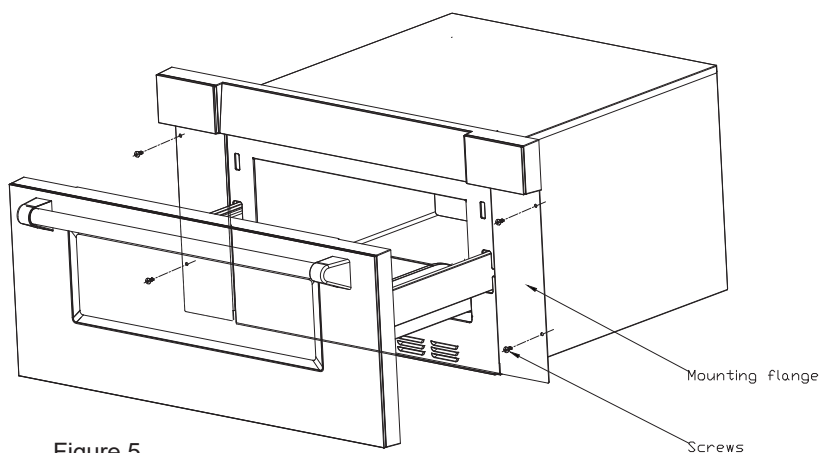

Figure 5
See Figure 5.
4. Open the drawer. Using the 4 holes on the drawer as a template, pre drill the cabinet using a 1/16" bit. See Figure 5.